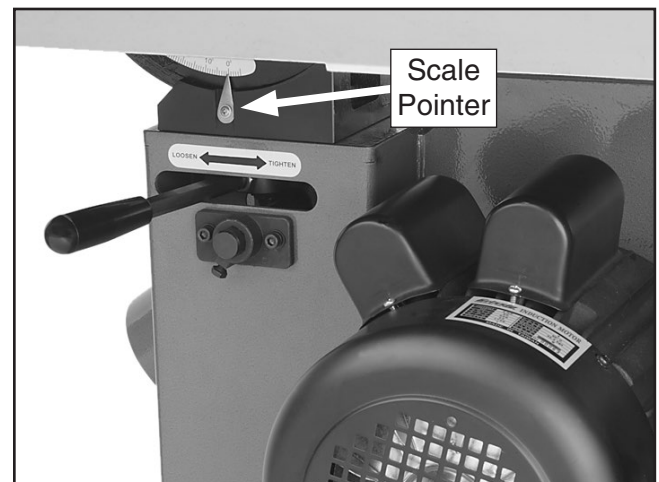

Figure 20. Table tilt scale pointer.
- Loosen the screw on the table tilt scale pointer, but do not remove it (see **Figure 20**).